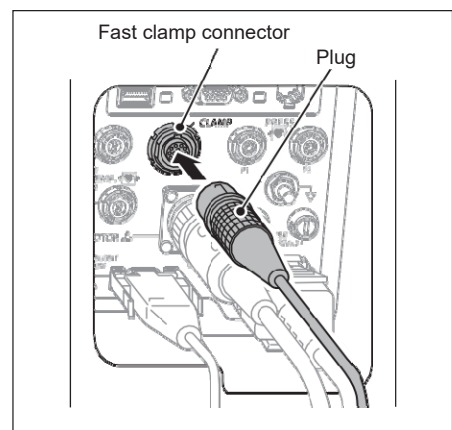

Figure 1-28
4. **Insert the plug of the Fast Clamp into the fast clamp connector on the rear panel. (Figure 1-28)**